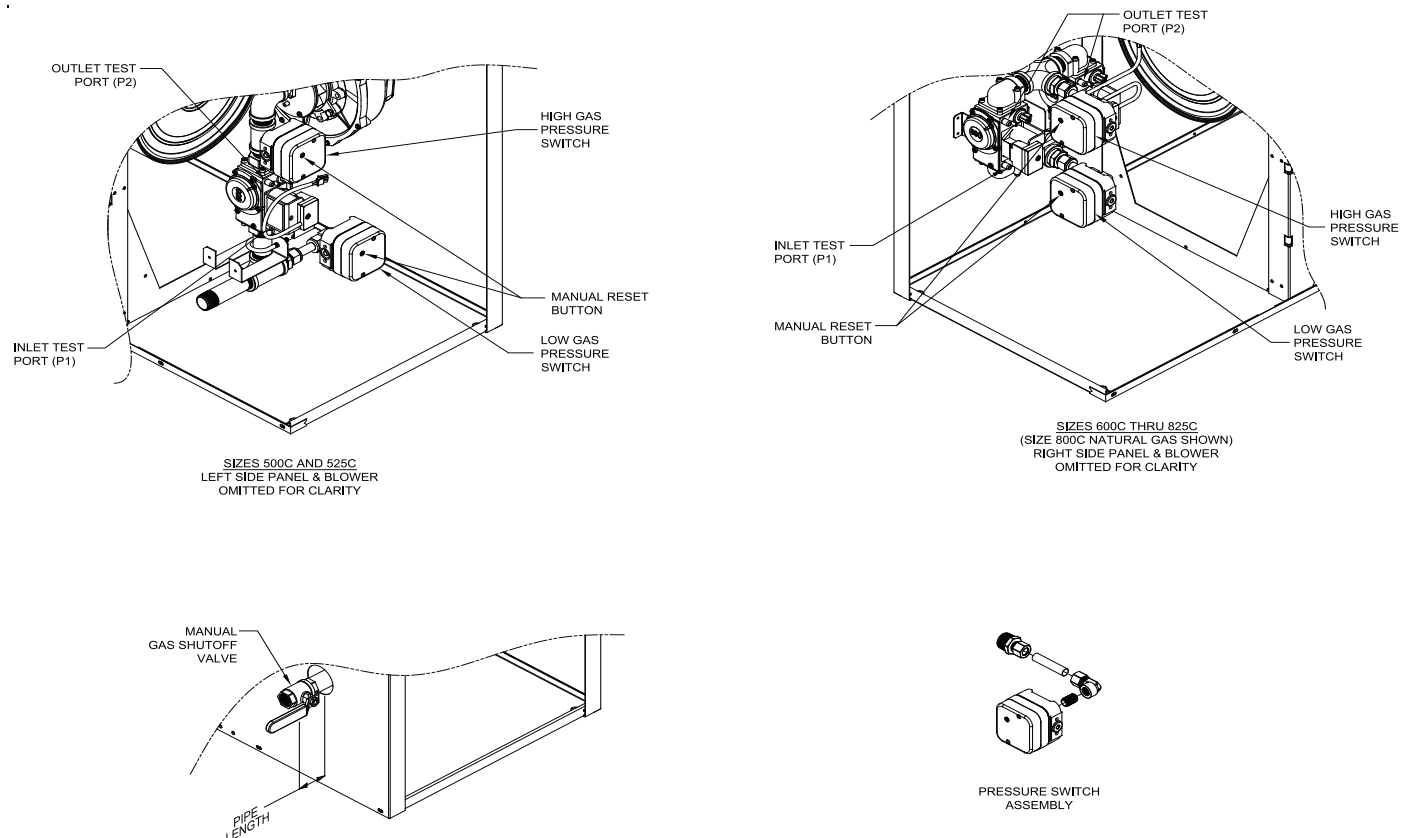

Figure 36: Gas Inlet Pressure Tap and Pressure Switch Location
4. **The gas pressure can be measured** at the gas valve inlet pressure port. Refer to Figure 36 “Gas Inlet Pressure Tap and Pressure Switch Location”.